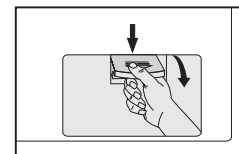

Fig 18
1. After the power is disconnected, use hand to open the filter cover (Fig18).